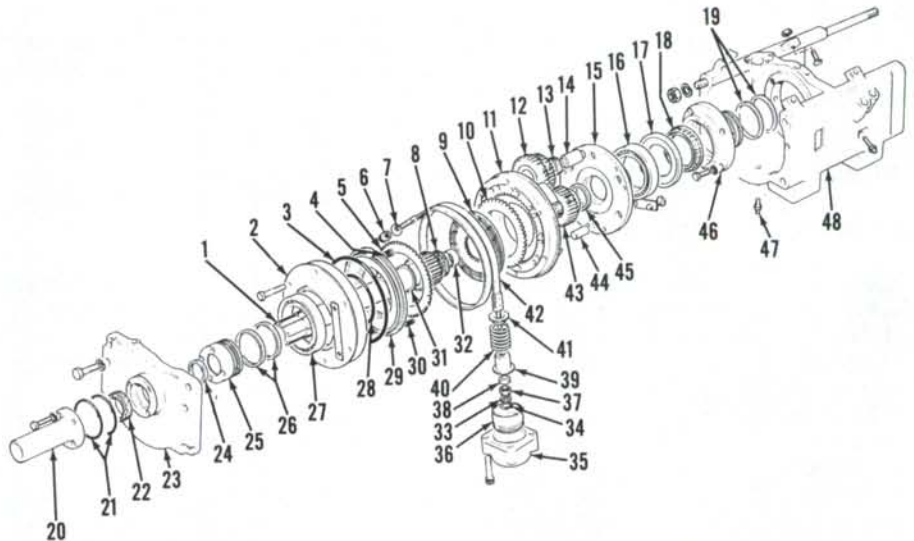

Fig. 196—Exploded view of front planetary assembly of power shift transmission. See Fig. 197 for view of rear planetary assembly.
(20—Fig. 196) and front cover (23). Disconnect brake line from front planetary brake cylinder (35) and remove cylinder. Loosen front brake band locating screws and remove brake band adjusting nuts (6 and 37). Remove sleeve (39), spring (40) and seat (41). Withdraw input shaft (1), then remove brake band (42) and lift front planetary unit from center housing. Remove hydraulic line for planetary brake cylinder from center carrier. Remove spacer plate (17) and sprag clutch (18).
261. FRONT PLANETARY OVERHAUL. Mark clutch cylinder (2—Fig. 196), carrier (11) and end cover (15) so they can be reassembled in their original positions. Remove mounting bolts, then separate clutch cylinder from planetary carrier. Remove piston (29) from cylinder and remove and discard "O" rings (3 and 28). Remove inner and outer springs (4 and 30). Remove clutch plates (5, 9 and 10) keeping plates together for use in reassembly.
Install planetary gear pins, bearings and gears in their original positions with gear timing marks pointing toward center of carrier. See Fig. 198. Install sun gear aligning timing marks as shown. Install thrust washer (45—Fig. 196), with oil groove facing up, into end cover (15). Install end cover over planetary gears aligning marks made during disassembly. Tighten mounting bolts to 40 N·m (30 ft.-lbs.) torque and secure with locking plates.
263. CENTER CARRIER AND FRONT COVER. Inspect sealing rings (19—Fig. 196) in bearing carrier (46) and renew as necessary.
Renew thrust washer (31—Fig. 196), bushing (32) and oil seal (8) in front input shaft (1) if necessary. Be sure to install thrust washer with oil groove side towards gear.
Pry oil seal (22—Fig. 196) from front cover (23). Remove seal rings (26) from front support sleeve (25). Remove sleeve mounting bolts and remove sleeve from front cover if renewal of bushing (24) is necessary.
Install new bushing (24) flush with inner face of support sleeve (25). Apply gasket sealer to mounting surface of sleeve, then install and tighten bolts to 20 N·m (15 ft.-lbs.) torque. Install sleeve sealing rings (26) with chamfered side up on top ring and chamfered side down on bottom ring as shown in Fig. 200. Install new front oil seal (22—Fig. 196) with lip facing inward.
Install front cover and tighten mounting bolts to 20 N·m (15 ft.-lbs.) torque. Install new "O" rings (21—Fig. 196) on support sleeve (25) and tube (20). Position support tube (20) on front cover so oil hole in tube is towards bottom of power shift housing and tighten mounting bolts to 12 N·m (9 ft.-lbs.) torque.